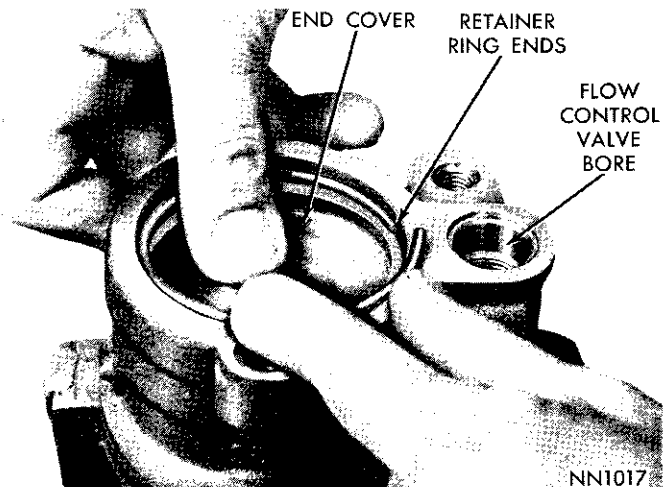
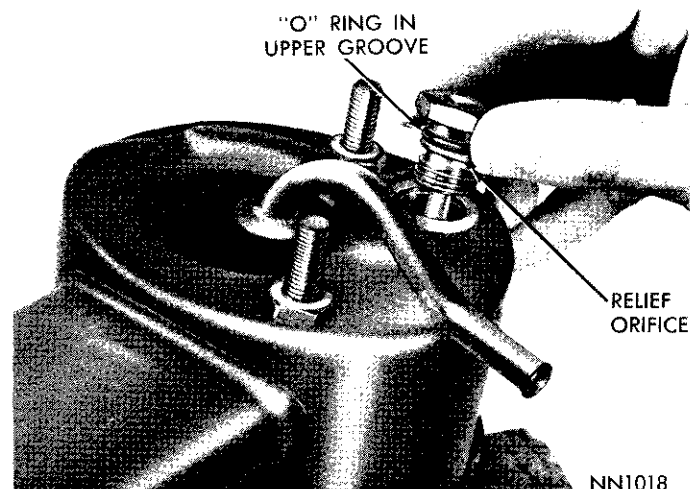

Fig. 17—Installing End Cover Plate and Retainer Ring
Fig. 18—Installing Pressure Hose Fitting
(13) Using a punch, tap retainer ring ends around in the groove until opening is opposite flow control valve bore. This is important for maximum retention of the retainer ring (Fig. 17).
(14) Replace reservoir "O" ring seal, two mounting stud "O" ring seals and flow control valve "O" ring seal on pump body, lubricate with power steering fluid and carefully position reservoir on pump body. Visually align the mounting stud holes till studs can be started in threads.
(15) Using a plastic hammer, tap reservoir down on pump and insert flow control valve spring and valve (slotted end up).
(16) Replace "O" ring on pressure hose fitting and lubricate with power steering fluid (Fig. 18).